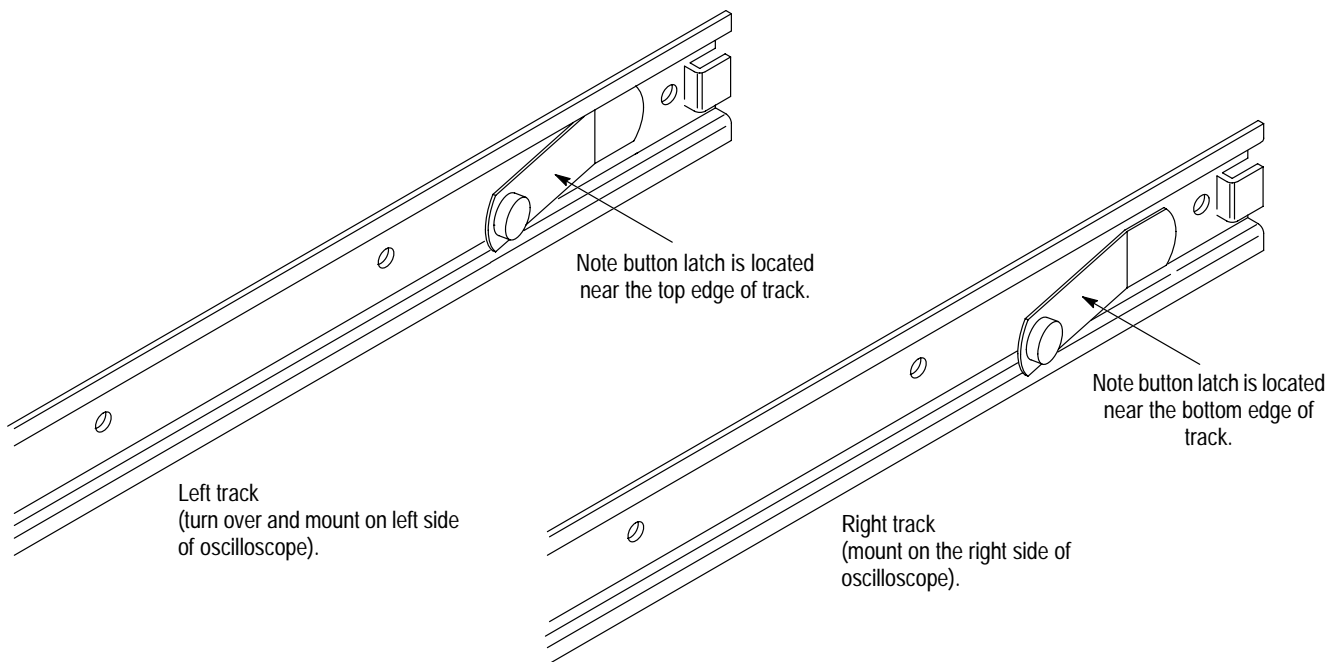

Figure 7: Left and Right Inside Track Identification
- Using Figure 7, identify the right from the left inside track.